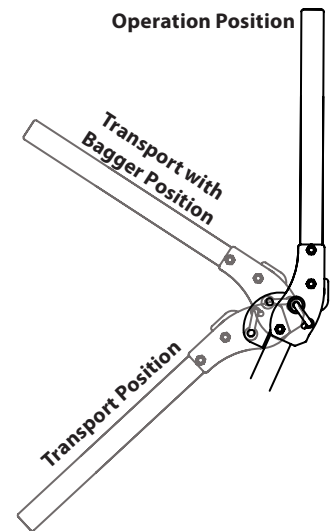

Figure 3-2
Refer to Figure 3-2 and the following descriptions and uses for the three (3) positions for the ROPS.
- Move the ROPS into the desired position. The three positions are TRANSPORT (a) position, TRANSPORT WITH BAGGER (b) position and into the OPERATION (c) position. See Figure 3-2.